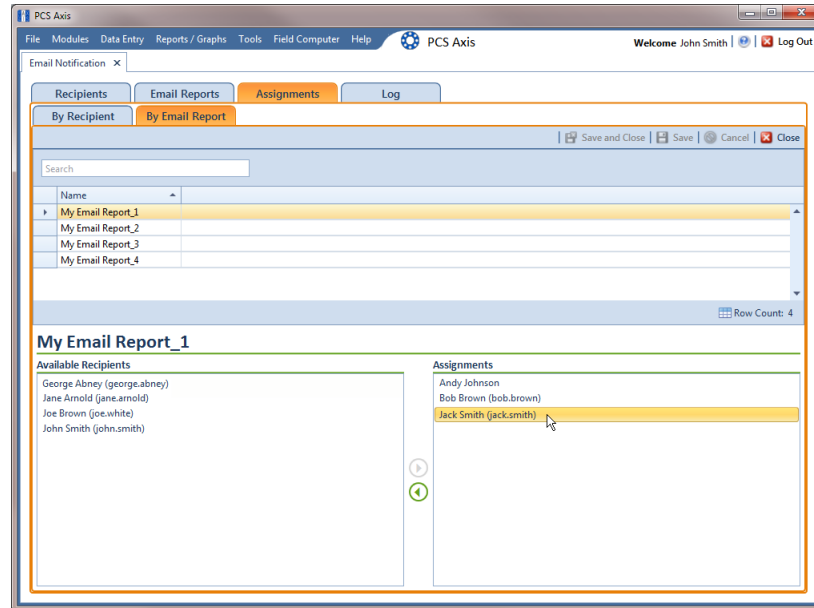

Figure 12-18. Email Notification Assignments By Email Report
- 2) Double-click a recipient name in the *Assignments* pane to move it to the *Available Recipients* pane. Then click  **Save**. The email report is sent only to those recipients listed in the *Assignments* pane (Figure 12-18).